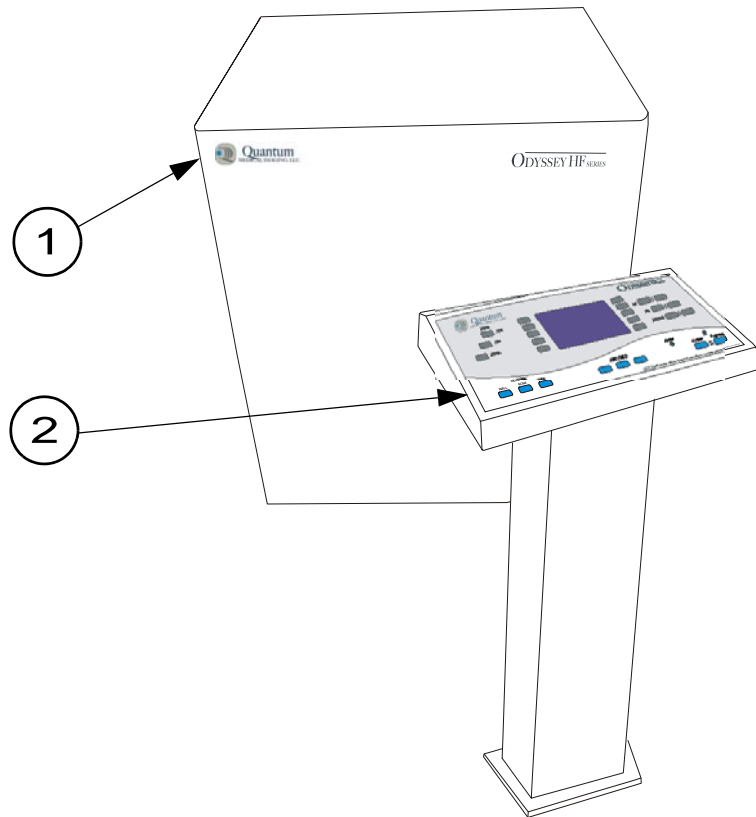

Figure 2-1. HF Series X-ray Generator - Main Components
See Figure 2-1. The HF Series X-ray Generator is comprised of:
- 3 The operator console may be mounted on a shelf (QG-WM option), table top, or on a pedestal (QG-PDL option, as shown in Figure 2-1).